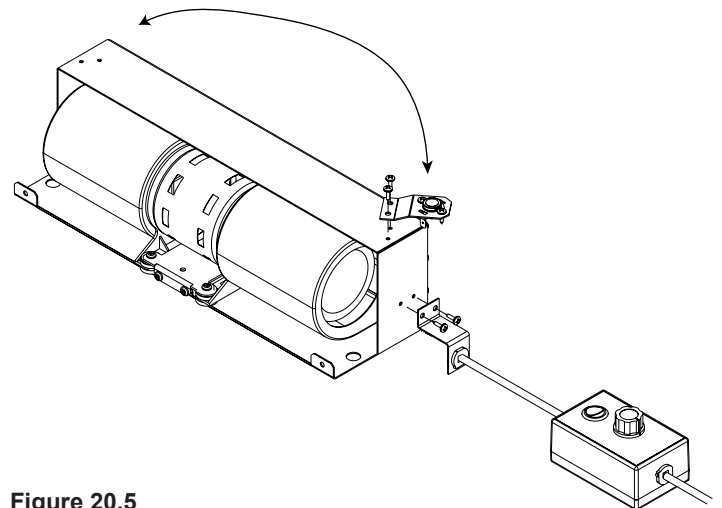

Figure 20.5
3. Using phillips head screw driver, remove snap disc bracket and cord restraint bracket from right side (**Figure 20.5**).
4. Re-install snap disc bracket and cord restraint bracket to left side of blower housing (**Figure 20.5**).